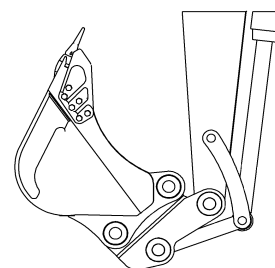

Figure 3: Correct operating position
6. Visually check that the locking wedge plate is securely located against the rear attachment pin and the front lock is closed. Also ensure that the indicator bar is in the correct operating position as shown by Figure 3.